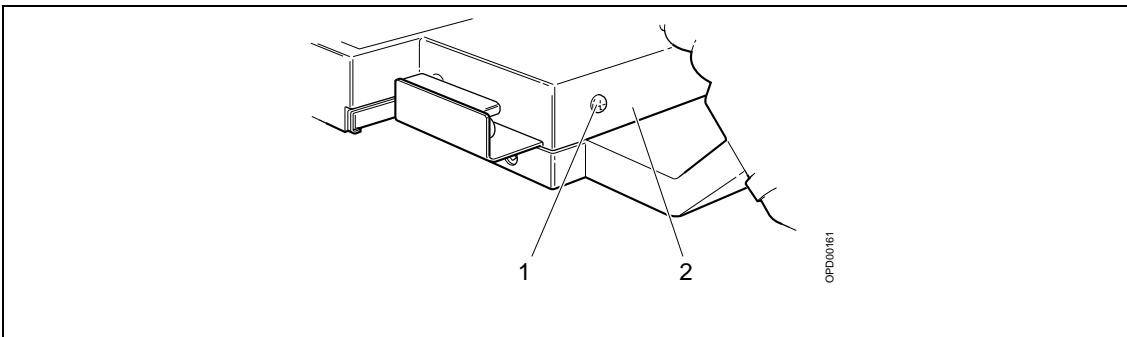

Fig. 5 Object table arm before installation
2. Remove the screws (1/Fig. 5) and remove the cover (2/Fig. 5) of the object table arm.